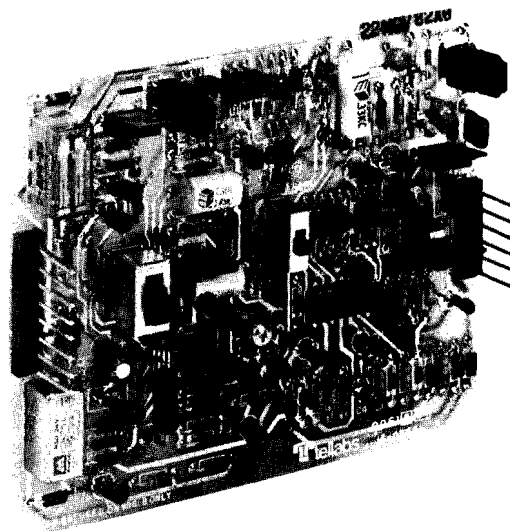

figure 1. 9961BR FXO Signaling Converter subassembly
1.01 The 9961BR FXO (foreign-exchange, office-end) Signaling Converter subassembly (figure 1) provides conversion between E&M-lead signaling and the type of loop signaling normally used at the switching-equipment end of a foreign exchange (FX) or off-premises station (OPS) circuit. Specifically, the 9961BR converts E-lead signals to loop signaling for operation of the switching equipment and converts loop supervisory and ringing signals from the switching equipment to M-lead signals. The 9961BR is intended for use on Tellabs 6461R Common Signaling Modules mounted in a Tellabs 266XR Registered Network Interface System, where each module and subassembly together provide an FCC-registered FXO interface.